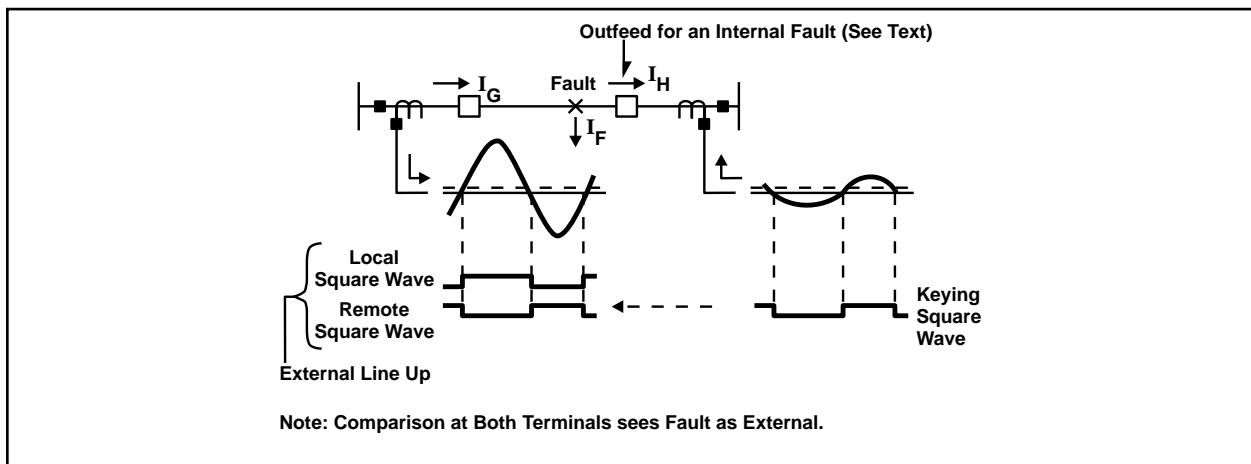

Figure 2-7. Conventional Phase Comparison Response to an Outfeed Condition Block Tripping.
To generate the local and keying square waves, conventional phase comparison systems use thresholds equivalent to (or very near) the zero axis. As a result, an internal fault with outfeed looks like an external fault to those systems (see Figure 2-7). The offset keying technique permits the relay system to trip for internal faults with outfeed current out at one terminal. While the outfeed condition is very unusual, it presents difficult problems to the great majority of pilot relaying systems when it does occur. Outfeed can occur in any of the following cases:
This relationship is illustrated in Figure 2-7, where I_G equals I_F plus I_H . While the two terminal currents may have any angular relationship with one another, most outfeed conditions display a nearly out-of-phase relationship. The out-of-phase condition illustrated is the most difficult case for phase comparison, as well as the most common outfeed condition.
Output trip signals are supervised by an arming input and a number of security checks (see Figure 2-7). Phase arming is performed by a current rate-of-change detector that responds to sudden increases, decreases, or angular shifts in current. It operates on current changes of 0.5 A or more, with an operating time of 2 ms. Ground arming is 3I magnitude—typically 0.8 A secondary.
Security checks to comparison AND (see Figure 2-7) include (1) low channel signal blocking, (2) lockout for sustained low channel signal, (3) channel noise clamp, and (4) receive guard block. For the phase subsystems, a trip signal occurs if comparison AND has an output for more than 3 ms (4 ms for the ground subsystem).